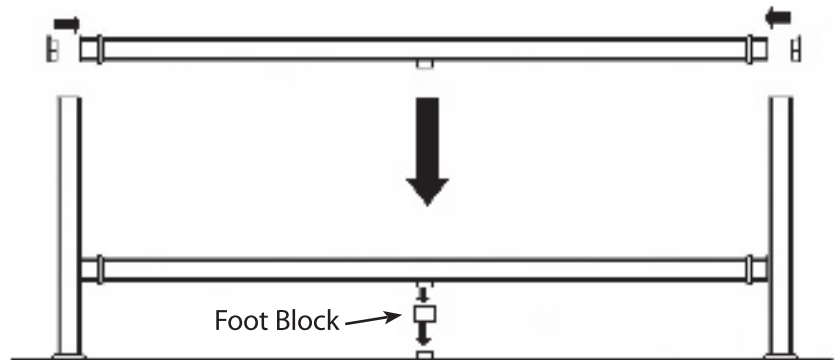

Figure 10. Installation of Bottom Bracket
5.) Install Bottom Brackets. Slide trim pieces onto the bottom rail facing the finished trim towards the center of the rail. After making certain that the aluminum insert is positioned with the shorter legs facing the hole, insert the 2" x 3 1/2" brackets at both ends the bottom rail. Lower bottom rail (the rail with your drain holes) into position between posts and set onto the foot block (Figure 9). Make sure the holes for the pickets are facing up. Ensure the rail is level and the bracket is centered on the post. Attach bracket to the post using six #12 x 1/4 Hi/Lo screws for each bracket (Figure 10). Drive a #8 x 3/4" screw through the top of the rail 3/8" of an inch from the post down into the bracket. This will provide the mechanical attachment of the rail to the bracket. Snap trim in place.